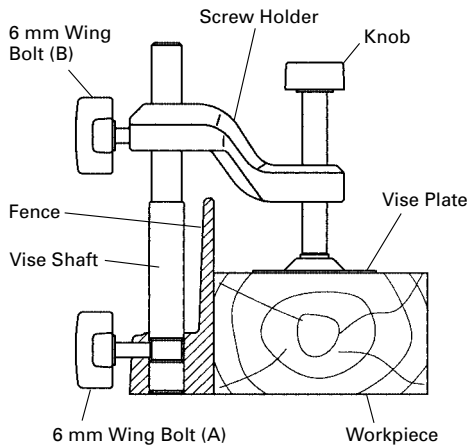

Fig. 16
- (1) The vise assembly can be mounted on either the left fence {Fence (B)} or the right fence {Fence (A)} by loosening the 6 mm wing bolt (A).
- (2) The screw holder can be raised or lowered according to the height of the workpiece by loosening the 6 mm wing bolt (B). After the adjustment, firmly tighten the 6 mm wing bolt (B) and fix the screw holder.
- (3) Turn the upper knob and securely fix the workpiece in position (Fig. 16).